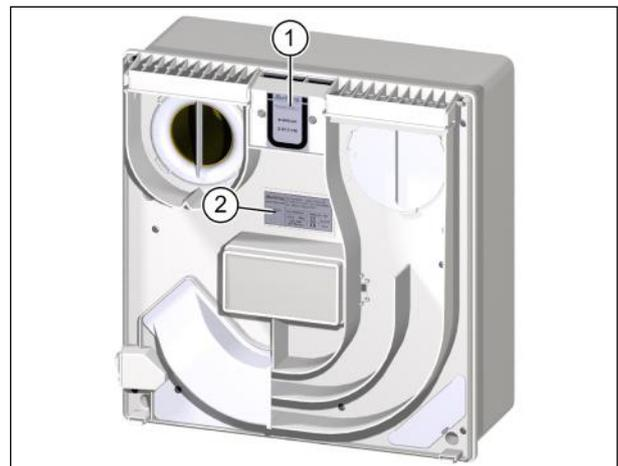

Fig. 2: Approval number and nameplate
The approval number is Z-51.3-138 (see item 1 in Fig. 2).
You will find the nameplate on the intermediate plate on the inside of the housing (see item 2 in Fig. 2).